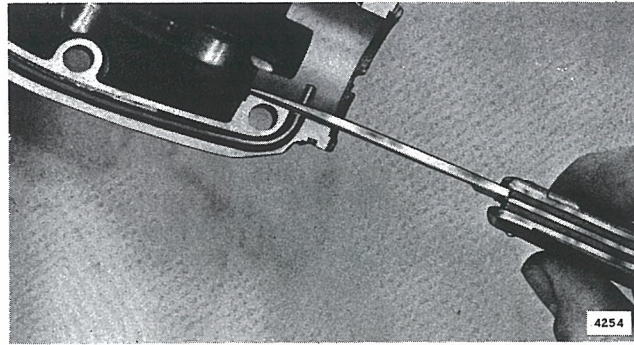

Figure 6-19. Trimming Seal
- e. Wash machined faces of gearcase halves. Apply Sealer 1000 to seal groove and lay seal strip in groove. Cut ends square and allow 1/32 inch to extend beyond end of groove to provide a tight butt seal against gearcase head. Add a little Sealer 1000 to ends of strip seal. See Figure 6-19. Apply a thin line of Sealer 1000 to surface of upper gearcase.